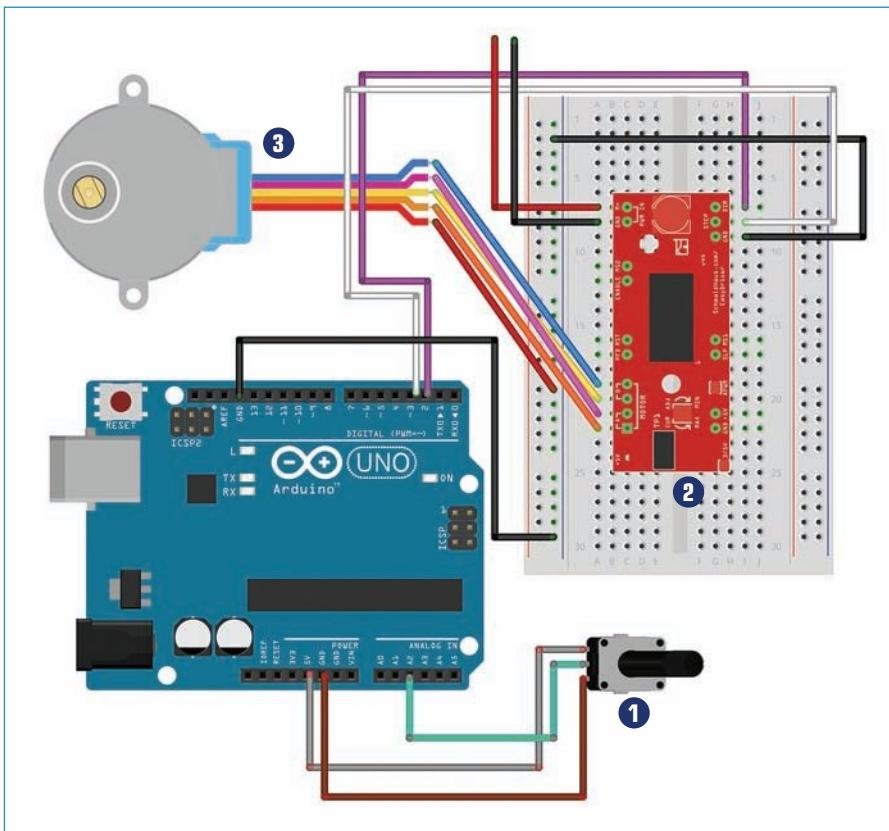

FIGURE 13.8 Wire up the project as you see here.
This project consists of a surprising number of connections, but just follow along with Figure 13.8.
- ➋ Plug in your EasyDriver to a breadboard. Connect it to the Arduino with two jumpers, marked as white and purple in Figure 13.8. The white wire connects the pin marked “STEP” on the PCB to pin 3 on the Arduino. The purple wire connects from the pin marked “DIR” on the PCB to pin 2 on the Arduino. The pin marked GND on the EasyDriver plugs into the ground bus.
the four pins labeled “MOTOR” on the EasyDriver PCB. However, it’s a little tricky. You can’t just plug them in in the same order the yellow and pink wires need to be swapped, as marked in Figure 13.8.
- 4 Finally, add the stepper’s 12V power supply. It plugs into two pins marked “PWR IN,” and I used red and black wires in Figure 13.8 to show where they go. Also, don’t forget to connect the breadboard’s ground bus to an Arduino GND pin. You’re finished!